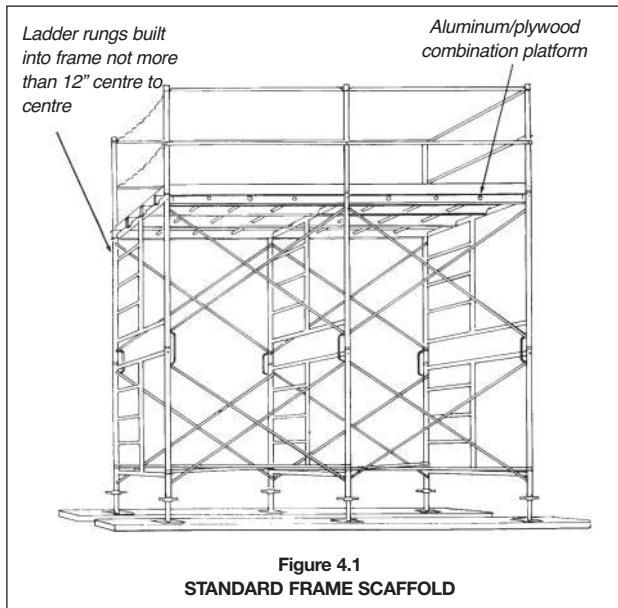
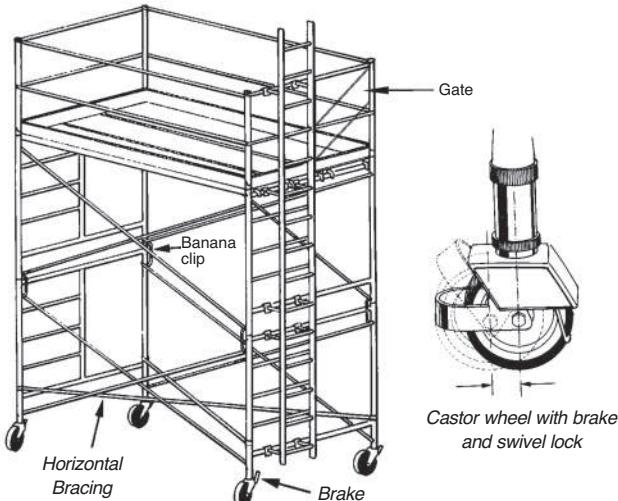

Figure 4.1
Figure 4.3
This is the most frequently used scaffold in construction. Historically it has been made of steel tubing, but aluminum is gaining popularity. The scaffold is manufactured in various configurations and spans. On some systems, ladder rungs are built into the end frames (Figure 4.1). These ladders are not suitable for tall scaffold towers unless rest platforms are installed at regular intervals and trapdoors are provided in the platforms. Other models are equipped with ladders that attach to the end frames (Figure 4.3). The ladder shown in Figure 4.3 is continuous and workers gain access via gates at the platform level. Again this ladder is not suitable for high scaffolds. Scaffolds in excess of 9 metres (30 feet) should have built-in stairs with rest platforms. Vertical ladders can reach up to 9 metres, but above 2.2 metres (7 feet) they require a safety cage.
- **Castor Type.** This type of scaffold is best suited for work on smooth floors and is typically used inside buildings. All castors should be equipped with braking devices (Figure 4.3). This kind of scaffold should be erected so that its height-to-width ratio is no greater than 3 to 1. This limits the height of platforms with standard outrigger stabilizers and single span towers to approximately 9 metres (30 feet).